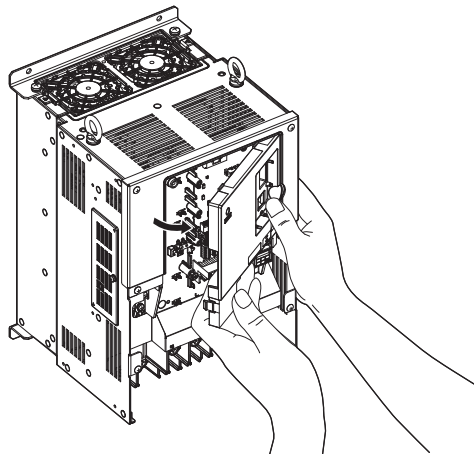

Figure 18 Remove the Front Cover
4. Unhook the left side of the front cover then swing the left side towards you as shown in Figure 18 until the cover comes off.